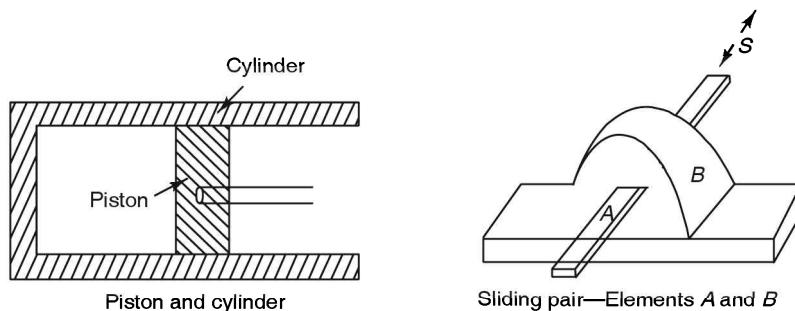

FIGURE 7.3 Sliding pair.
- (a) *Sliding pair*: The links in a sliding pair are constrained to have sliding motion relative to each other (Figure 7.3). This is also called *prismatic pair*. The examples of such pairs are: (i) piston and cylinder, (ii) tailstock on lathe bed, and (iii) ram and guides on the column of a shaper. The relative motion between elements A and B can be expressed by a single coordinate S and thus such a pair has one degree of freedom.